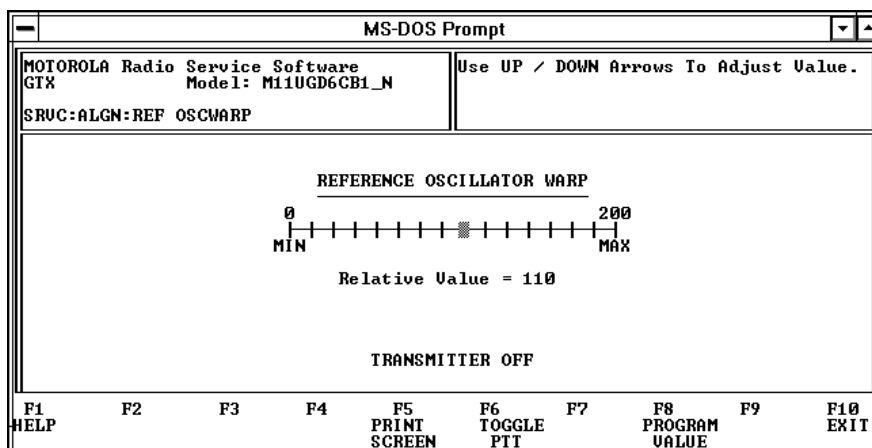

Figure 11.8 – Reference Oscillator Warp
1. Press F4, "WARP REFERENCE OSCILLATOR" from the replacement menu. The reference oscillator warp screen is shown in Figure 11.8.